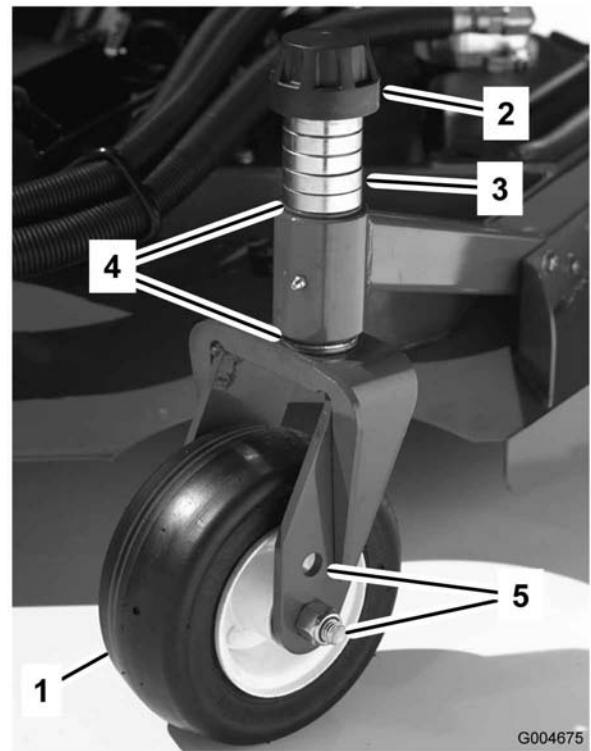
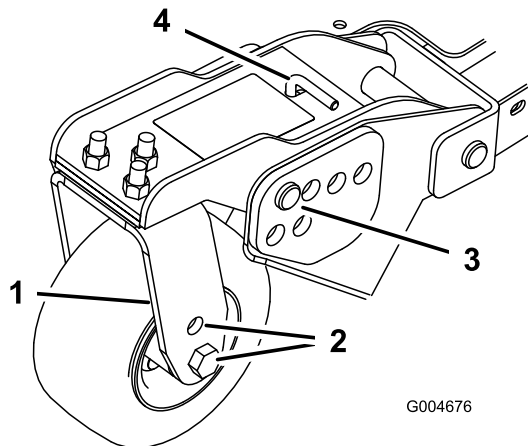
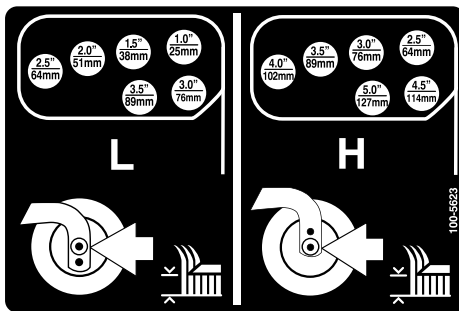

Figure 18
Figure 20
Figure 21
1. Position the castor wheel axles in the same holes in all of the castor forks (Figure 18 and Figure 20). Refer to the following chart to determine the correct hole for the setting.
2. Remove the tensioning cap from the spindle shaft (Figure 18) and slide the spindle out of castor arm. Put the two shims (1/8 inch [3 mm]) onto spindle shaft as they were originally installed. These shims are required to achieve a level across the entire width of the cutting units. Slide the appropriate number of 1/2 inch spacers onto the spindle shaft to get the desired height-of-cut; then slide the washer onto the shaft.
4. Remove the hairpin cotter and clevis pins from the castor pivot arms (Figure 20).
5. Rotate tension rod to raise or lower pivot arm until holes are aligned with selected height-of-cut bracket holes in the cutting unit frame (Figure 20 and Figure 21).